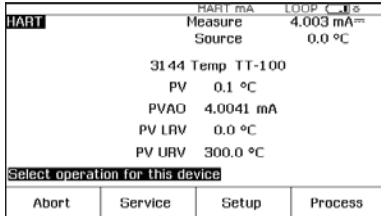

Figure 11.
1. Power on the Fluke 754 Calibrator. Press the red **HART** key followed by the **Loop Power** softkey. Press **ENTER** to bypass the warning screens and the 754 will display the basic HART information for the 3144 (Figure 11).